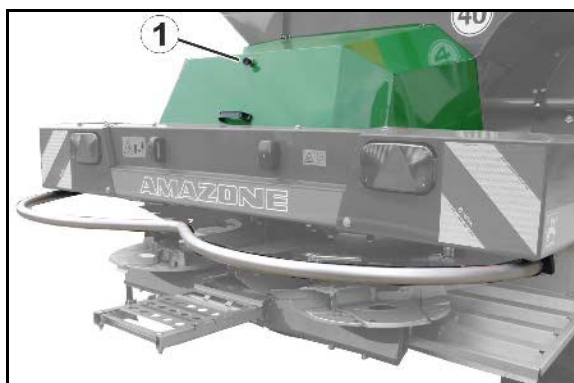

Fig. 42
1. Release lock button of hood (Fig. 42/1).